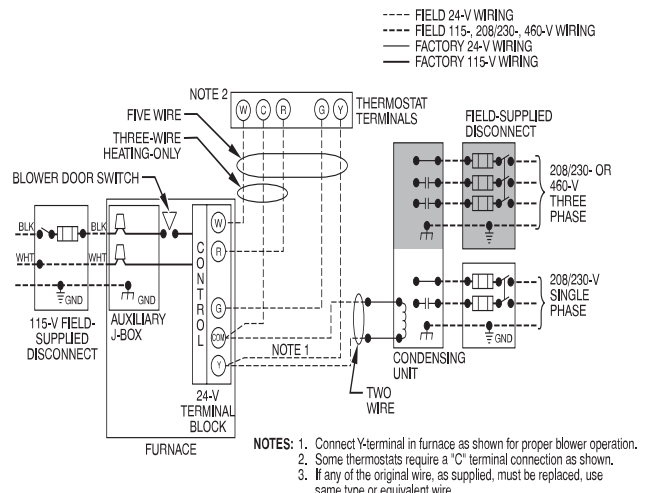

Fig. 24 – Heating and Cooling Application Wiring Diagram with 1-Stage Thermostat A190079
See Fig. 24 for field wiring diagram showing typical field 115-V wiring. Check all factory and field electrical connections for tightness.
13. Complete electrical box wiring and installation. Connect line voltage leads (see Fig. 24). Use best practices (NEC in U.S. for wire bushings, strain relief, etc.)
5. Connect line voltage leads (see Fig. 24).